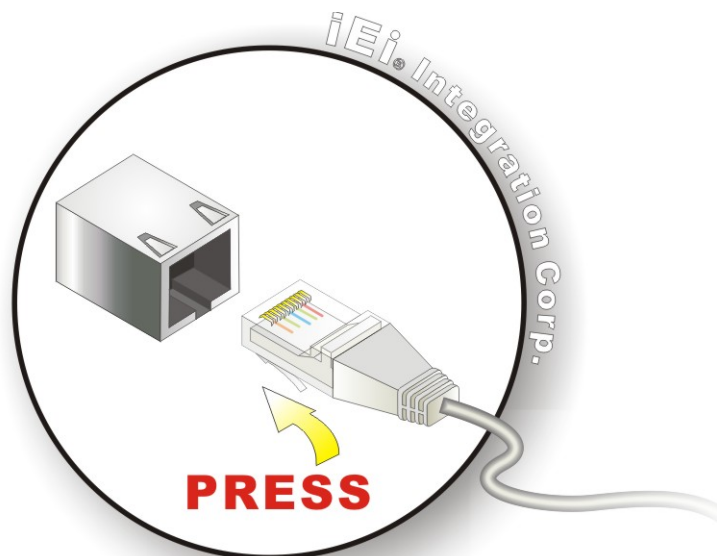

Figure 3-11: LAN Connection
Step 2: **Align the connectors.** Align the RJ-45 connector on the LAN cable with one of the RJ-45 connectors on the TANK-871-Q170i series. See **Figure 3-11**.